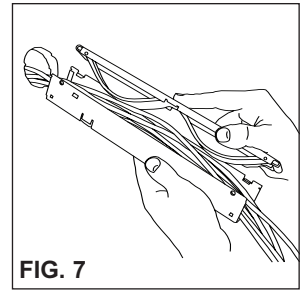

FIG. 7
2. Place raceway channel around cables (See Fig 7).